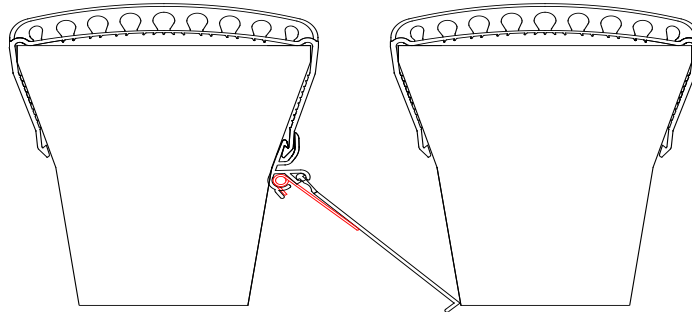

Figure 29
11. Manually ensure valves are operating. (See – Figure 29).